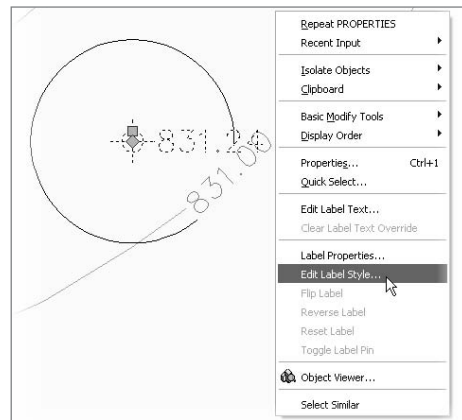

Figure 1.20
1. Continuing with the Exploring Label Styles drawing, zoom in on one of the surface spot labels as shown in Figure 1.20.